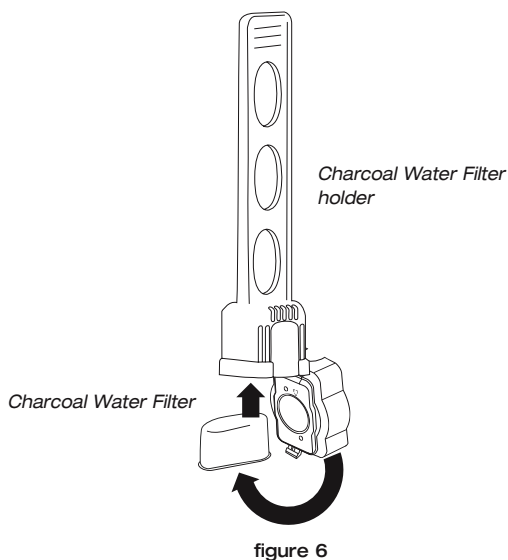

figure 6
4. Place the filter into the holder and snap it closed. Be careful – improper placement can tear the filter skin (see figure 6).